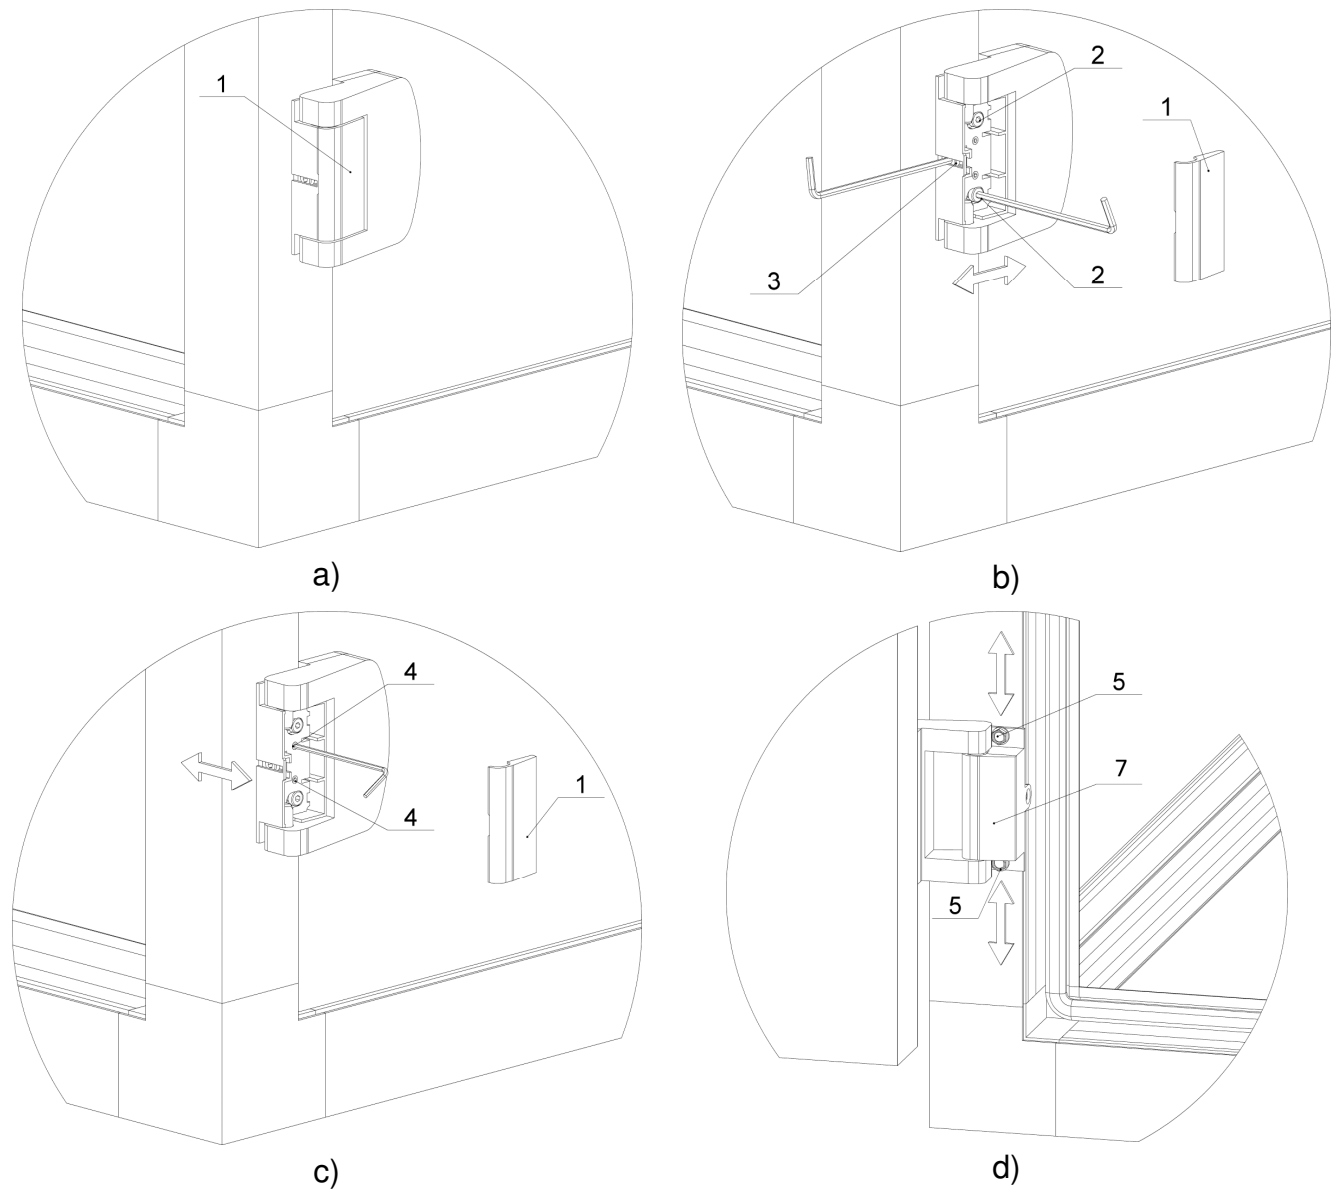

Figure 9.5.3 - AmberAir hinge adjustment sequence.
Hinge adjustment (Figure 9.5.3):
1. Remove hinge cover 1 (Figure 9.5.3 a).
2. Loosen the two screws 2 securing the mobile element (Figure 9.5.3 b).
4. Turn the screw 4 for the adjustment of gasket compression (Figure 9.5.3 c).
7. Loosen self-tapping screws 5 (Figure 9.5.3 d).